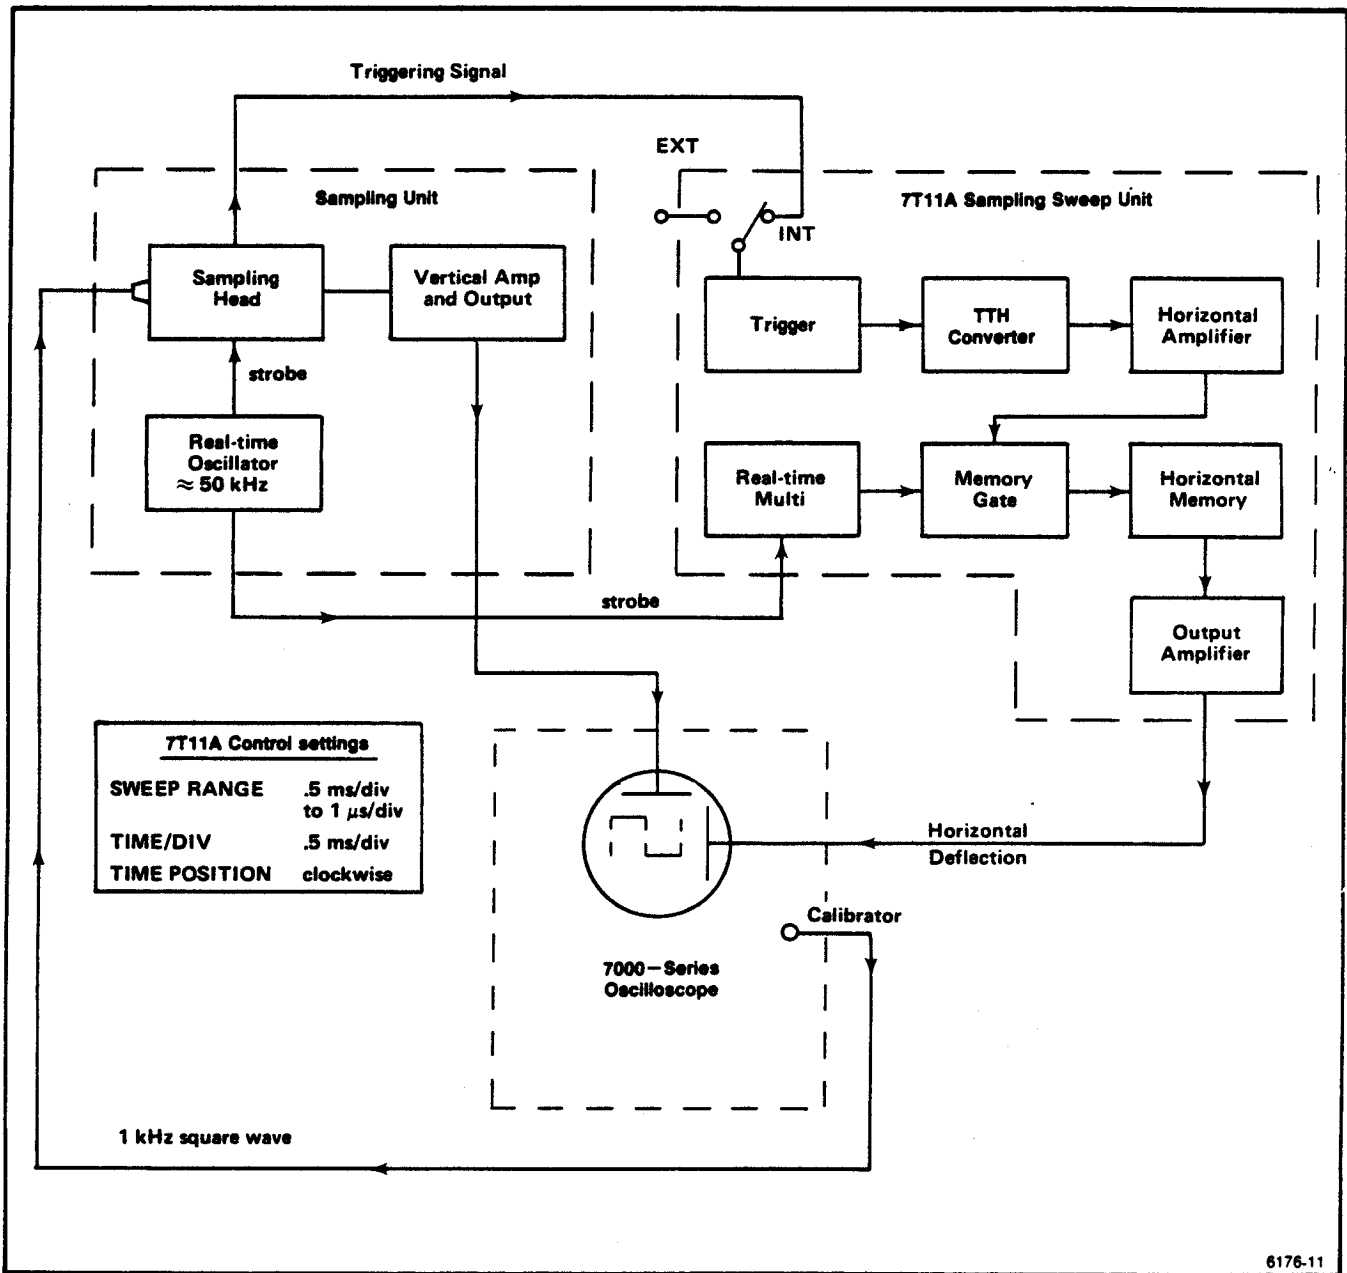
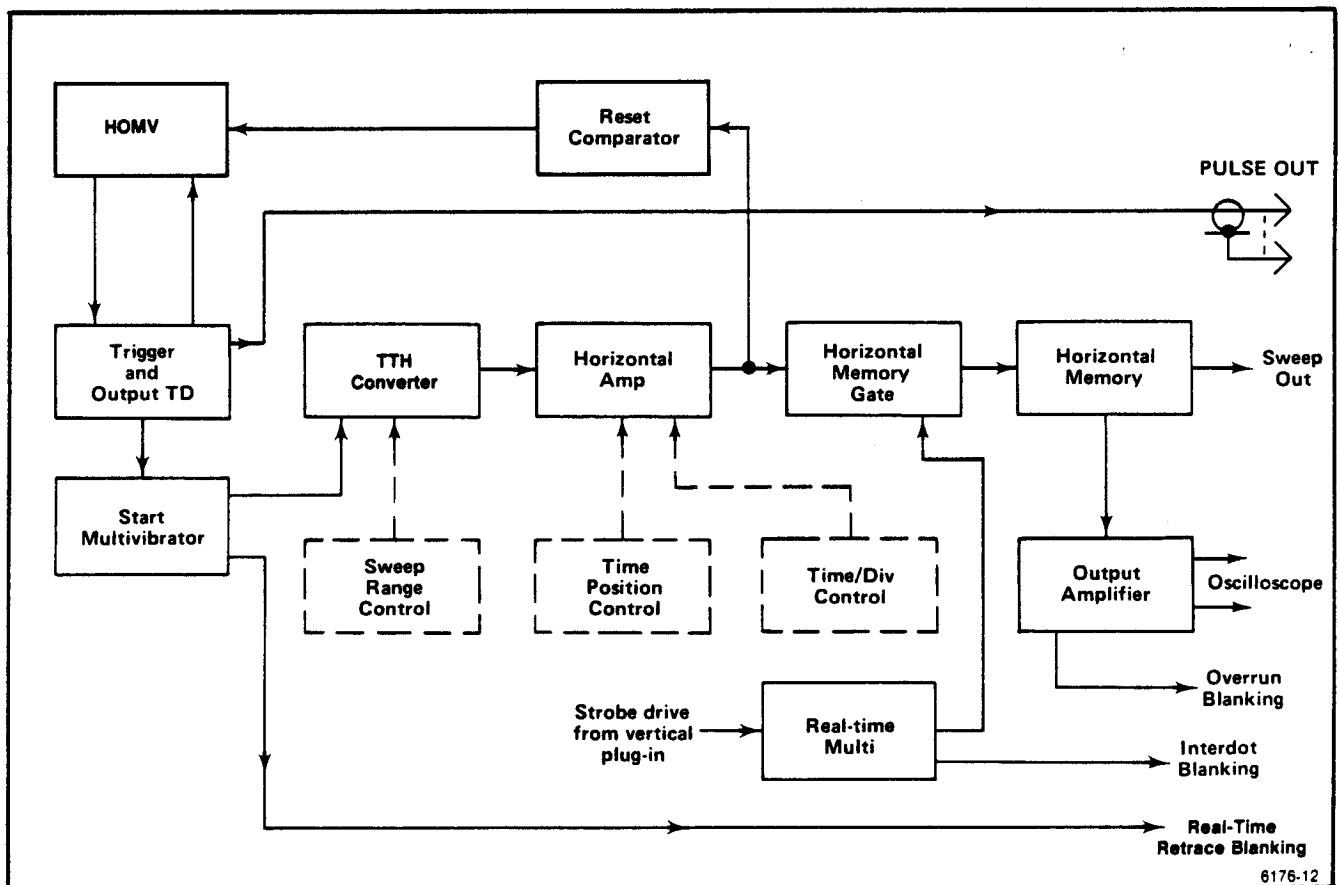
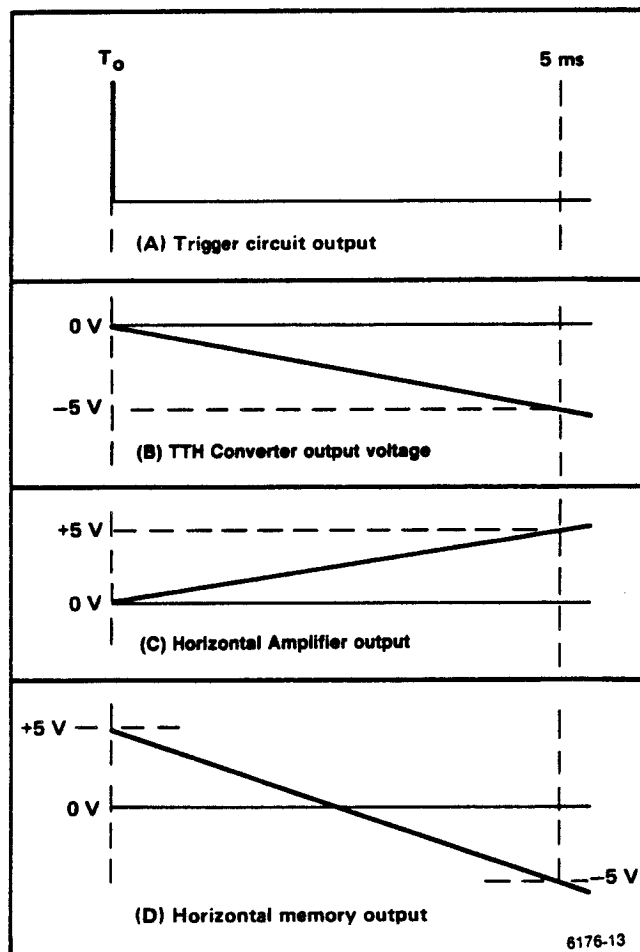

Figure 3-1. Simplified block diagram of a sampling system using the 7T11A as a Real-time Sweep Unit.
Figure 3-2. 7T11A complete block diagram for Real-time sampling.
Figure 3-3. Circuit waveforms at control settings shown in Figure 3-1.
In Figure 3-1, the Trigger, TTH Converter, and Horizontal Amplifier serve the same purpose as the Trigger, Sweep Generator, and Horizontal Amplifier circuits in a conventional horizontal sweep unit. The function of these blocks will be discussed first.
A ramp amplitude of 10 volts is required at the output of the Horizontal Memory to produce 10 divisions of horizontal deflection on the CRT. The 10-volt ramp at the Horizontal Memory output is fed to the Output Amplifier. The Output Amplifier prevents loading of the Horizontal Memory circuit and changes the single-ended output of the Horizontal Memory to the push-pull horizontal drive signal required by 7000 series-oscilloscopes. The 10-volt output of the Output Amplifier is delivered to a Horizontal Interface board in the oscilloscope, and then to the CRT horizontal deflection plates. If either output of the Output Amplifier exceeds +5 volts the Overrun blanking circuit (now shown in Figure 3-2) is enabled, preventing display of the overrun portion of the sweep.
The 10-volt change at the Horizontal Memory output must occur in 5 ms in order for timing to be correct at the TIME/DIV setting shown in Figure 3-1. Figure 3-3 shows that the TTH Converter output voltage changes only 5 volts in 5 ms at the selected position of the SWEEP RANGE control. With the SWEEP RANGE and TIME/DIV settings given in Figure 3-1, the Horizontal Amplifier has a gain of 1. The fixed X2 gain of the Horizontal Memory provides the required rate of change of voltage. Since the TTH ramp continues to run negative after 5 ms from ramp start as shown in Figure 3-3, the Horizontal Amplifier output continues to run positive. This positive run is stopped by a reset circuit (not shown on Figure 3-1) when the Horizontal Amplifier Output voltage reaches approximately 5.2 volts.
Figure 3-3 shows that the rate of change of the ramp output of the Horizontal Memory is twice that of the ramp output of the Horizontal Amplifier. In addition to providing X2 gain, the Horizontal Memory inverts the applied signal and shifts its starting level from 0 volts to +5 volts. The output from the memory is not the perfect linear ramp it appears to be in Figure 3-3D. The voltage change from +5 volts to -5 volts is accomplished in 250 steps of 40 millivolts each.
plied to the Memory Gate. The action of the Memory Gate changes the linear ramp at the Horizontal Amplifier output to the staircase ramp appearing at the output of the memory. A  $3 \mu\text{s}$  duration gating pulse is applied from the Real Time Multivibrator to the Memory Gate at intervals of  $20 \mu\text{s}$ . The  $50 \text{ kHz}$  Real Time Oscillator, shown in Figure 3-1, controls the period of the Real Time Multivibrator and therefore determines the  $20 \mu\text{s}$  interval between gating pulses. The CRT is blanked during the  $3 \mu\text{s}$  gating pulse.
The basic block diagram for Real-Time (Figure 3-1) shows a system very similar to a standard real-time oscilloscope. The arrival of a trigger starts the timing ramp, or Time to Height (TTH) Converter. The 50 kHz Real-Time Oscillator supplies strobe pulse to the Real-Time Multivibrator every 20  $\mu\text{s}$ . When a strobe occurs, the Real-Time Multivibrator fires, causing the Memory Gate to conduct for about 3  $\mu\text{s}$ . The CRT is blanked by the Interdot blanking circuit during this 3  $\mu\text{s}$  period. The memory tracks along with the amplified TTH ramp until the gate quits conducting. The CRT is then unblanked and the memory voltage remains constant until the next memory gating pulse arrives approximately 17  $\mu\text{s}$  later. The width of the memory gating pulse sets the lead time of the instrument. During Real-Time sampling this lead time is about 3  $\mu\text{s}$ . For each triggering event, one sweep across the screen is produced. The display created during each sweep consists of a series of dots spaced at 20  $\mu\text{s}$  intervals. At the faster real-time sweep rates the number of dots displayed per sweep decreases.
Figure 3-2 shows a number of circuits and controls that did not appear in the basic block diagram of Figure 3-1. The additional circuit blocks are: Start Multivibrator, Reset Comparator, and HOMV (hold-off multivibrator). Operating controls shown on this block diagram are: SWEEP RANGE, TIME/DIV, and TIME POSITION.
The block labeled Trigger in Figure 3-1 is labeled Trigger and Output TD in Figure 3-2. This block represents all circuits through which the triggering signal passes before arriving at the Trigger Output tunnel diode. The time at which the trigger signal causes the Trigger Output TD to fire is referred to as trigger recognition or time  $t_0$ . The Trigger circuit switches the Start Multivibrator circuit, which in turn
**TIME/DIV Control.** Figure 3-2 shows that the TIME/DIV control operates on the Horizontal Amplifier block. Changing the setting of the TIME/DIV control changes the gain of the Horizontal Amplifier and thereby changes display magnification. Display magnification varies from X1 to X500 depending upon the location of the TIME/DIV setting within the window provided on the front panel control. Refer to Figure 2-6 in the Operating Instructions section of this manual.
**TIME POSITION Control.** Figure 3-2 shows that the TIME POSITION control also operates on the Horizontal Amplifier block. Essentially the TIME POSITION control delays the start of the magnified linear sweep delivered to the Horizontal Memory Gate. See Figure 3-6.
Figure 3-8 shows a simplified block diagram of circuits required for sequential equivalent-time operation of the 7T11A. Comparison of Figure 3-8 with the real-time block diagram shown in Figure 3-2 shows that the Reset Comparator and Real-Time Multivibrator are not used during equivalent-time operation.
Switching of HOMV section A causes the Horizontal Memory Gate to be turned on. The -2.5 volt level of the TTH ramp appears at the Horizontal Amplifier output as a +2.5 volt level, and at the Horizontal Memory output as a 0 volt output level. These voltage relationships are illustrated in Figure 3-3.